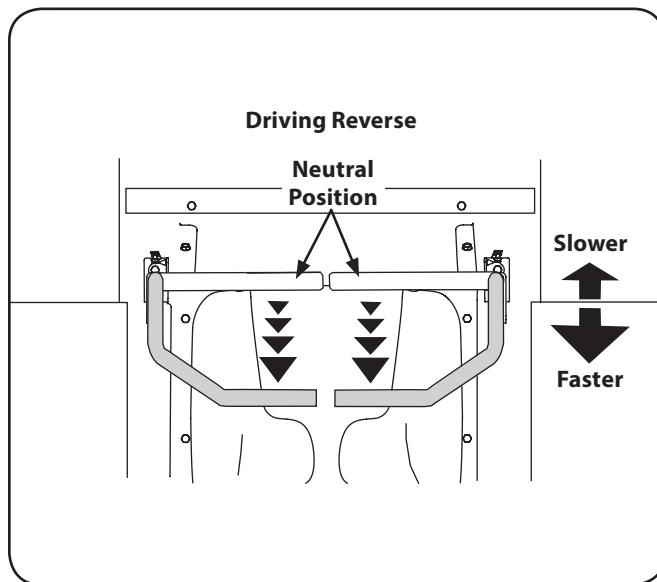

Figure 5-5
1. Slowly and evenly move both drive control levers rearward. The tractor will start to move in the reverse direction. See Figure 5-5.